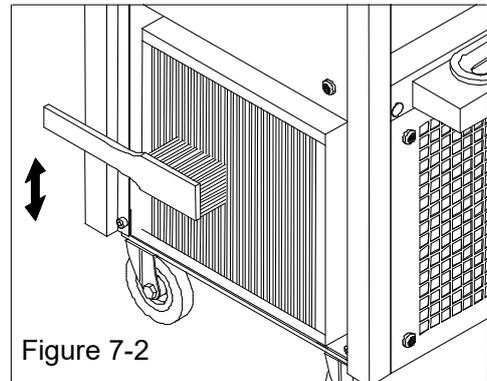

Figure 7-2
5. This machine is air cooled, check the condenser for an accumulation of dirt and lint. A dirty condenser will reduce the efficiency and capacity of the machine. Condensers should be cleaned monthly with a soft brush. Never use screwdrivers or other metal probes to clean between the fins. Failure to comply may result in electrocution. Figure 7-2